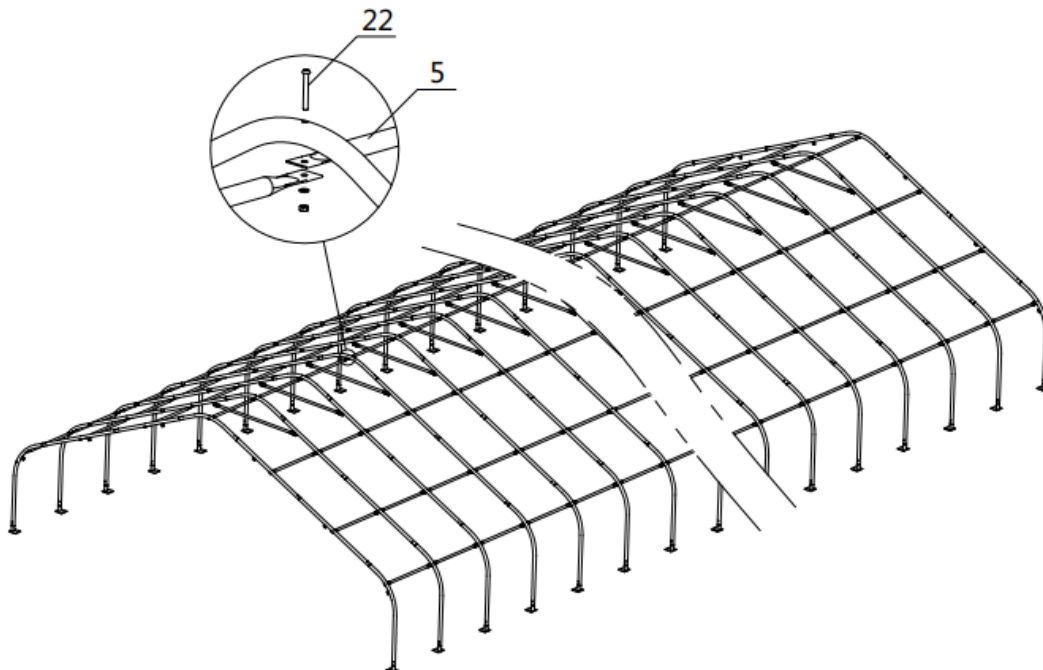

Figure 6
- Repeat above step to put up all other trusses (from 2th to 29th truss), and connect all purlins. Now the whole structure is completely up. (refer to figure 6)